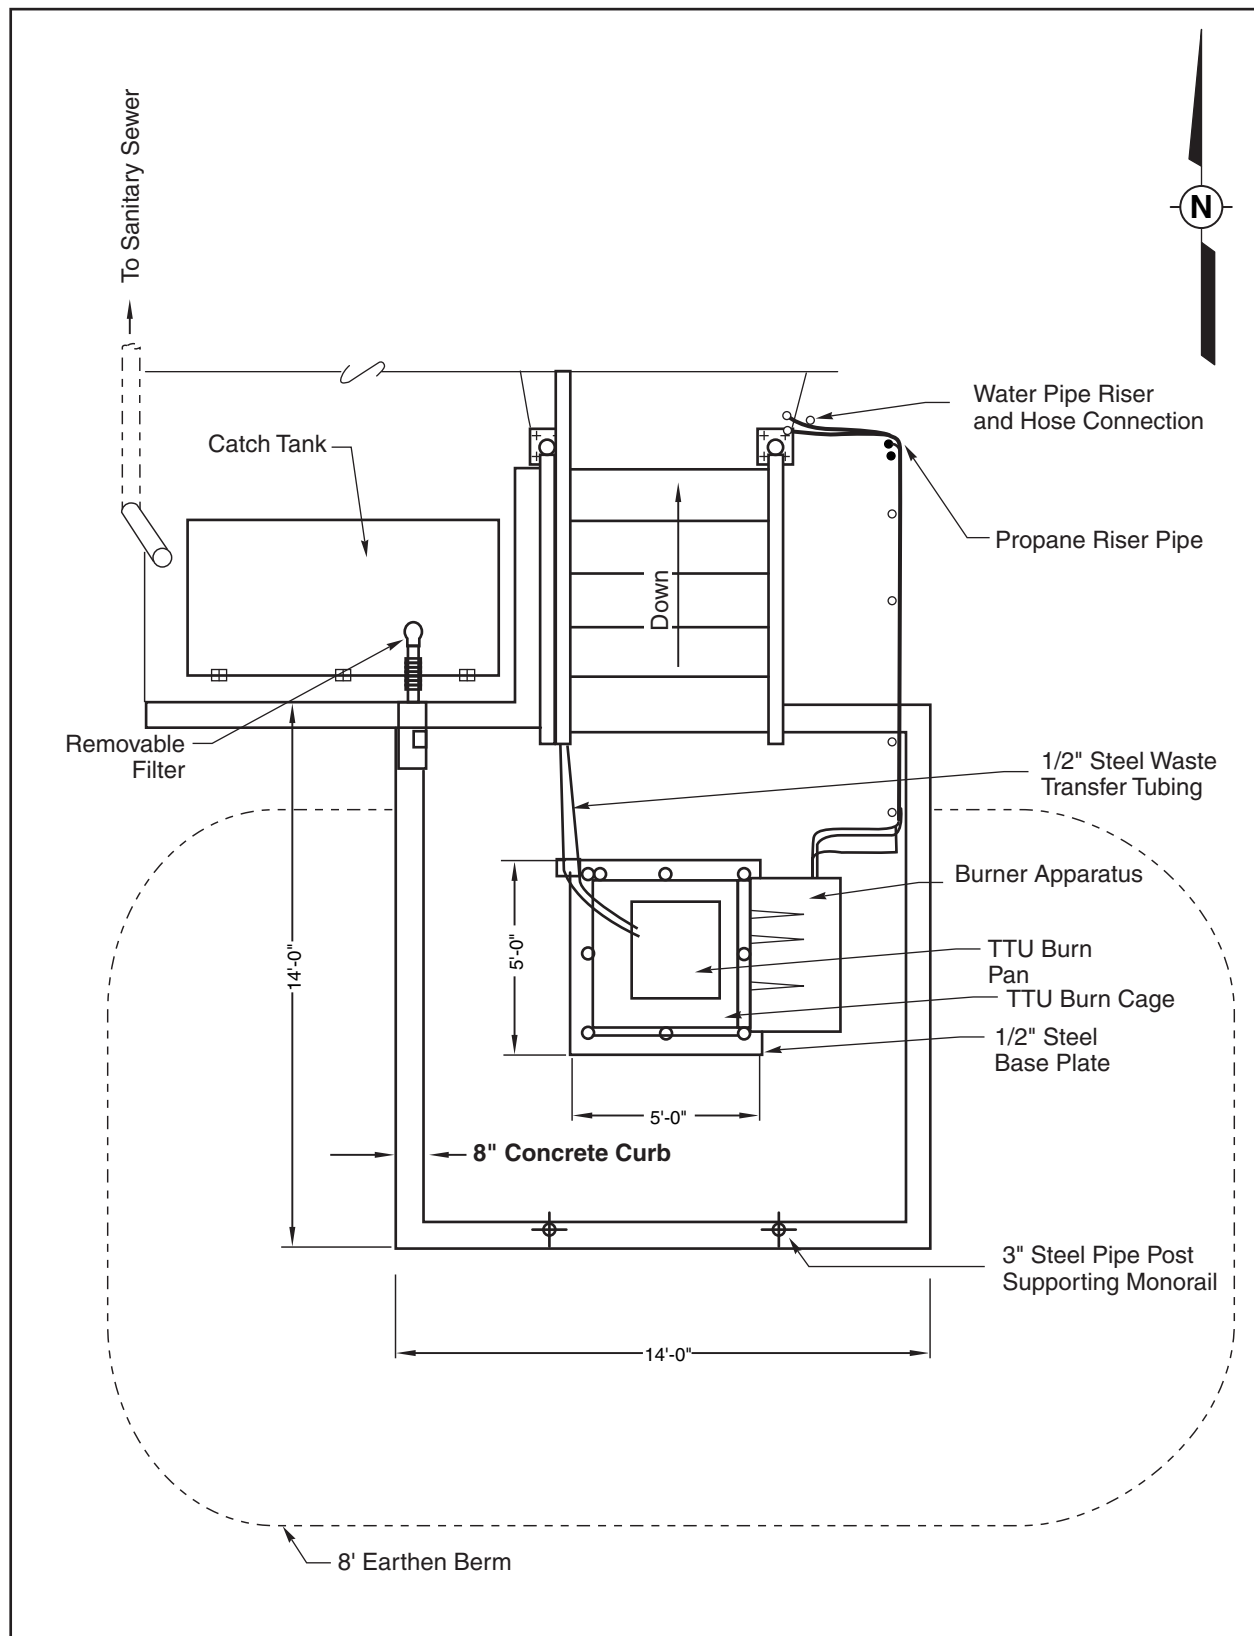

Figure 14
- Figure 14: Thermal Treatment Unit Plan View with Dimensions